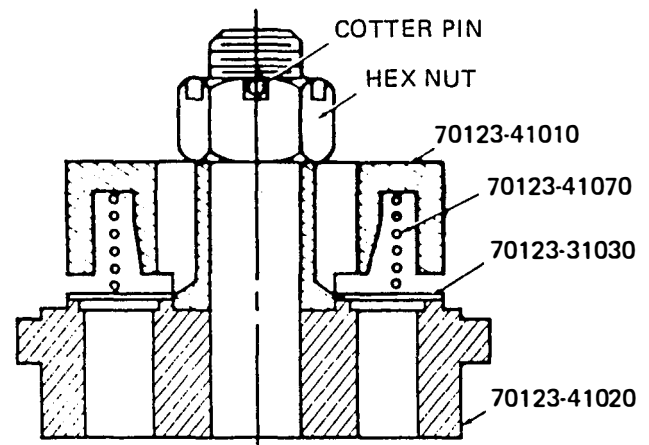

Figure 5
C. Disassembly of Outlet Valve Assembly (Figure 5)